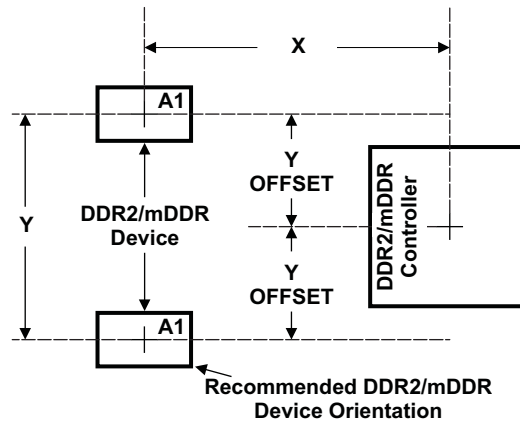

Figure 5-20. C6748 and DDR2/mDDR Device Placement
Figure 5-19 shows the required placement for the device as well as the DDR2/mDDR devices. The dimensions for Figure 5-20 are defined in Table 5-28. The placement does not restrict the side of the PCB that the devices are mounted on. The ultimate purpose of the placement is to limit the maximum trace lengths and allow for proper routing space. For single-memory DDR2/mDDR systems, the second DDR2/mDDR device is omitted from the placement.
- (1) See Figure 5-20 for dimension definitions.
- (2) Measurements from center of device to center of DDR2/mDDR device.
- (3) For single memory systems it is recommended that Y Offset be as small as possible.
- (4) Non-DDR2/mDDR signals allowed within DDR2/mDDR keepout region provided they are separated from DDR2/mDDR routing layers by a ground plane.
- (5) w = PCB trace width as defined in Table 5-27.